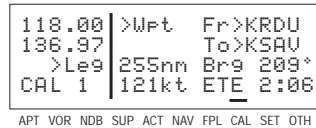
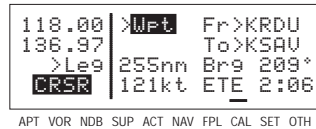

Figure 3-33
Figure 3-34
Now that you've learned how to select the desired page, you're ready to learn the means of entering data. It is necessary to enter data, for example, in order to specify a waypoint of your choice to go Direct To. The general procedure for entering a waypoint identifier is described below and is shown in figures 3-33 through 3-41 for entering a waypoint (in this case, First Flight airport in North Carolina, identifier KFFA) on the Calculator (CAL) 1 page.
1. If the cursor is not on the screen (figure 3-33), press **CRSR** to turn on the cursor function (figure 3-34).